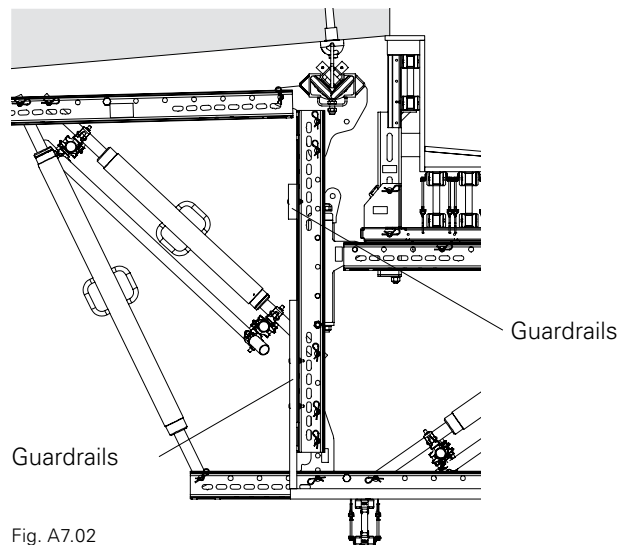

Fig. A7.02
- Guardrails must also be mounted at the rear section of the standard unit. (Fig. A7.02)